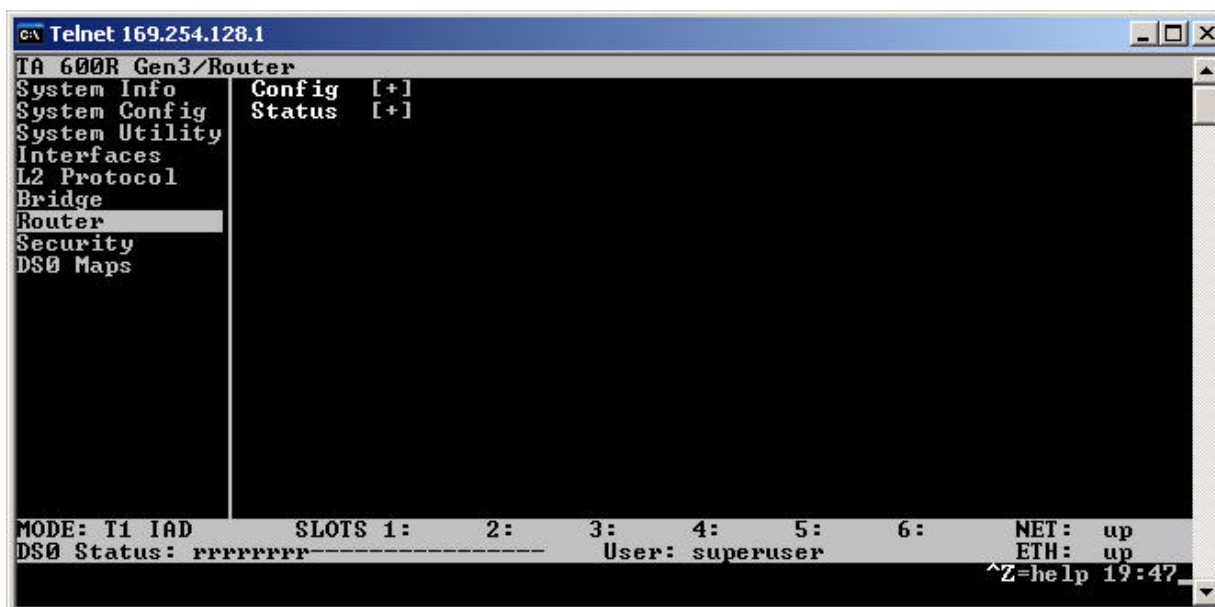

Figure 91: Router menu
2. Navigate to the Router menu as shown in Figure 91. Use this menu to configure the ADTRAN router parameters and view statistics.
3. Use the down arrow to select **Router** from the main menu list as shown in Figure 91.